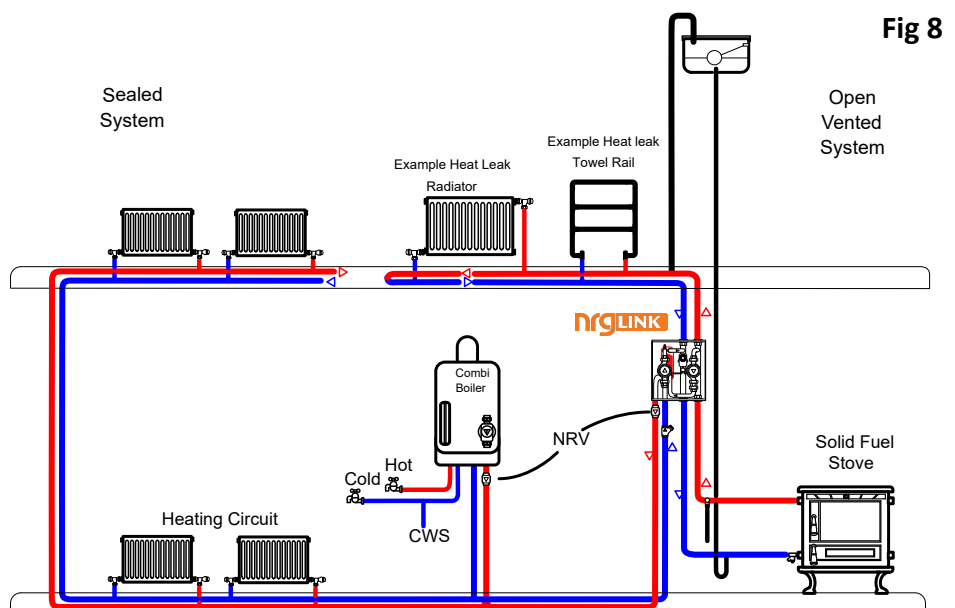

Fig 8
- Pressurised DHW cylinders cannot be used as heat leaks. They can, however, be heated from the solid fuel appliance through the secondary side of the NRG Link (see figure 8).
Fig 8 shows an interconnection between an open vented solid fuel stove with a heat leak radiator - towel rail circuit and a closed system combi-boiler.